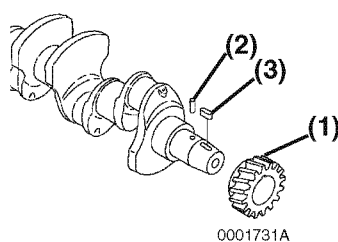

Figure 6-41
- Remove the crankshaft gear (**Figure 6-41, (1)**). If using a gear puller, be careful not to damage the treads in the end of the crankshaft. Remove the parallel pin (**Figure 6-41, (2)**) and the key (**Figure 6-41, (3)**) from the crankshaft.